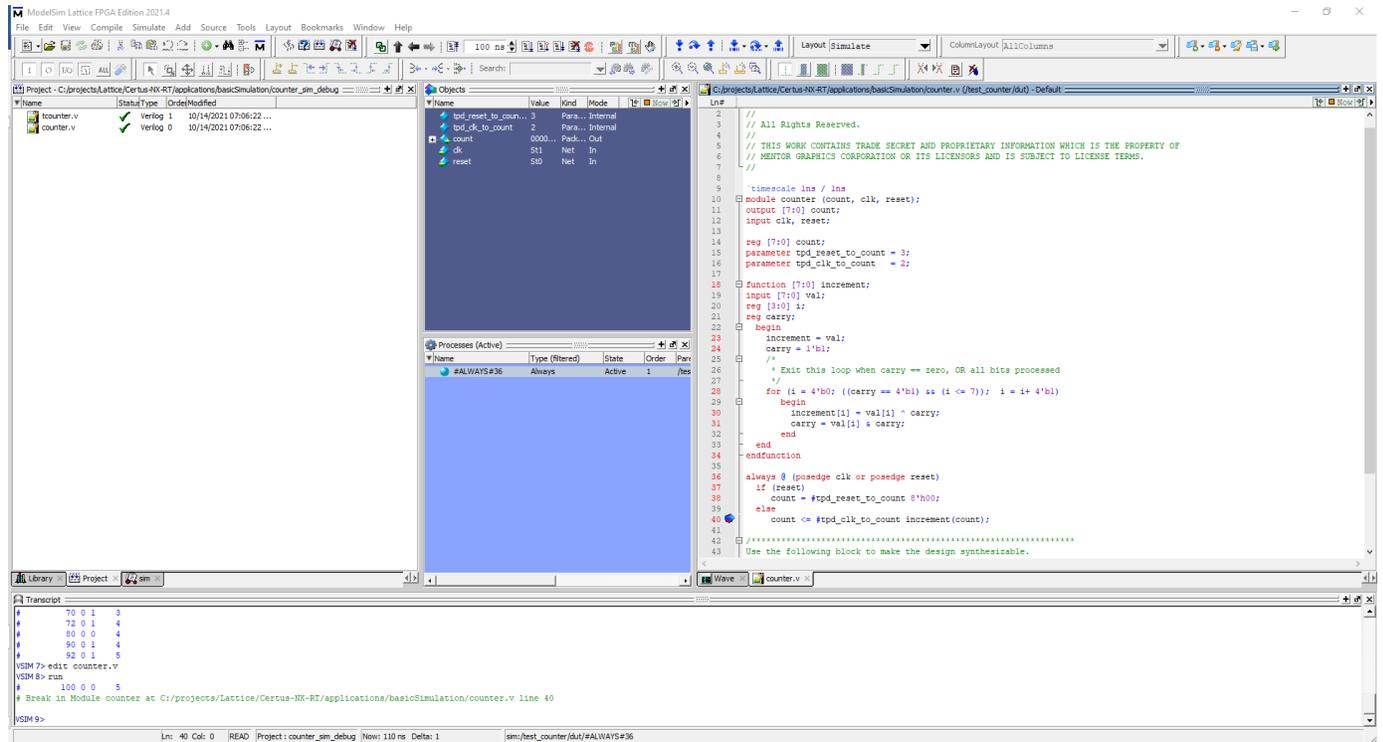

Figure 10: Stepping Around a Breakpoint
12. Run for 100ns  and the debugger will stop at line 40; signal values can be seen in the **Objects** window. As with any other **IDE** running **C** code, you can **Step Into** , **Step Over** , and **Step Out** , see **Figure 10**.